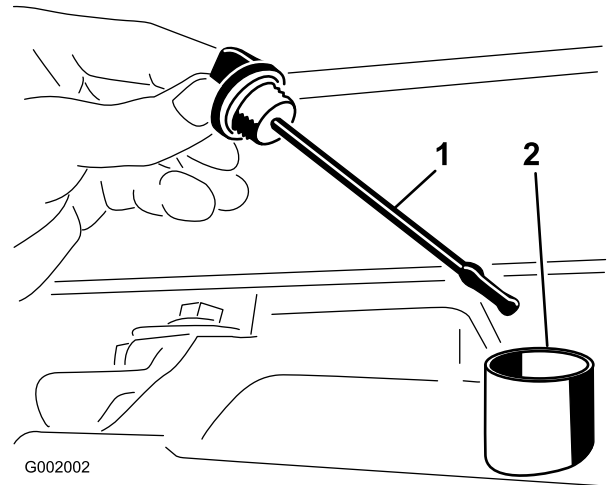

Figure 66
2. Remove the transaxle dipstick and wipe it with a clean rag (Figure 66).